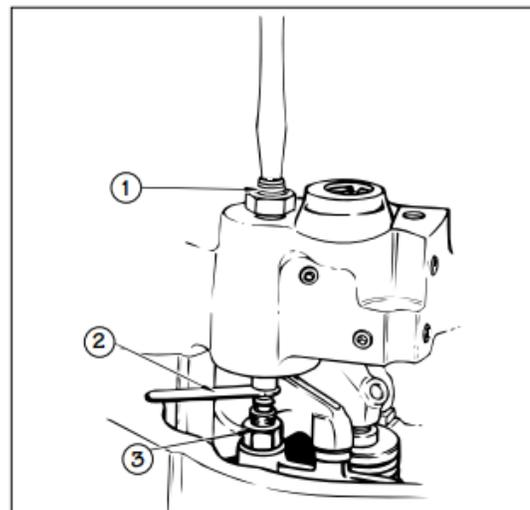

FIG. 13
1. With the exhaust valves closed on the cylinder to be adjusted, insert the proper Jacobs' feeler gage (2) between the slave piston and the actuating pin (3) in the valve bridge adjust screw (see Fig. 13).